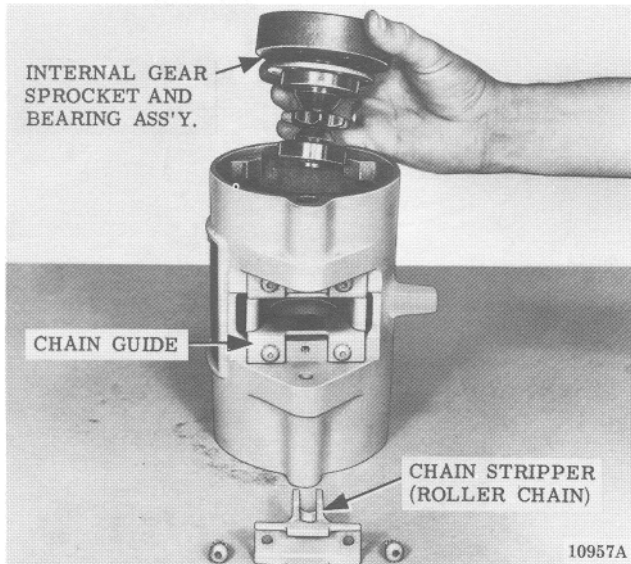

Figure 7-11. Removing Internal Gear, Chain Sprocket and Ball Bearing Assembly (Roller Chain Model).
(3) On roller chain models, remove two fillister head screws attaching chain stripper to frame and lift out stripper. Chain stripper on coil chain models is integral with chain guide.
(4) On coil chain models, remove four fillister head screws attaching chain guide and stripper assembly to hoist frame. This will free guide to allow sprocket to be pulled through it as it is removed in step (5). Refer to Figure 7-11.
(5) Rotate internal gear (Figure 7-10) until holes in web align with six socket head screws securing bearing clamp plate to frame. Remove internal gear, chain sprocket and ball bearings as a unit (Figures 7-11 and 7-12). It may be necessary to tap sprocket to free ball bearings from bores in frame.